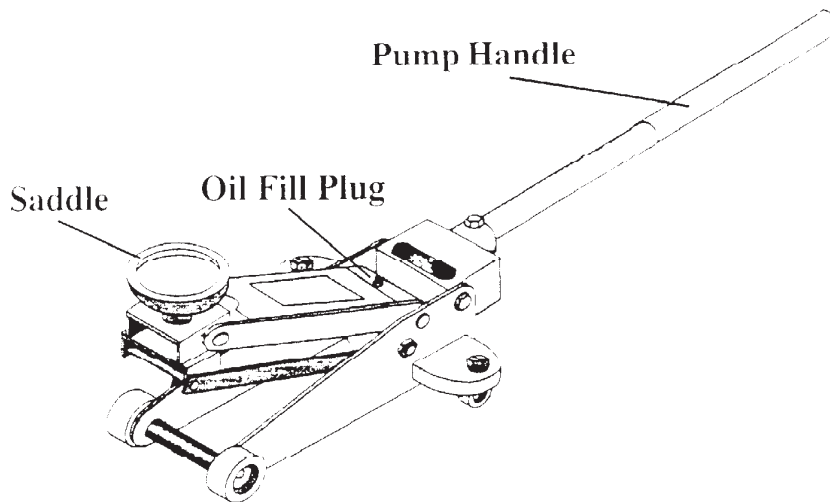

Figure 5 -- Bleeding the Jack
Step 3: Remove the Oil Fill Plug (shaped like a nipple)-see location in Figure 5 below.
Step 4: Hold the Saddle down and pump the Handle Assembly rapidly several times as shown in Figure 5.